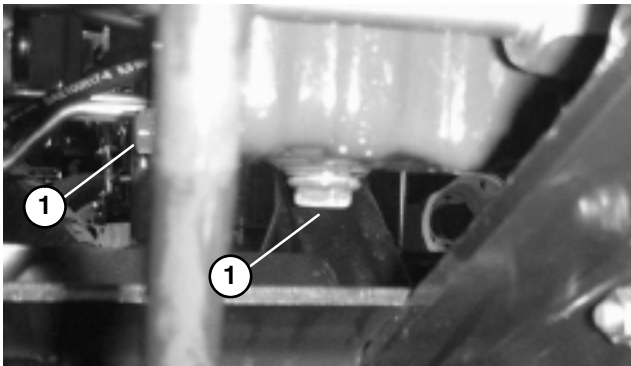

Figure 45
1. Remove drain plug (Fig. 45) and let oil flow into drain pan. When oil stops, install drain plug.